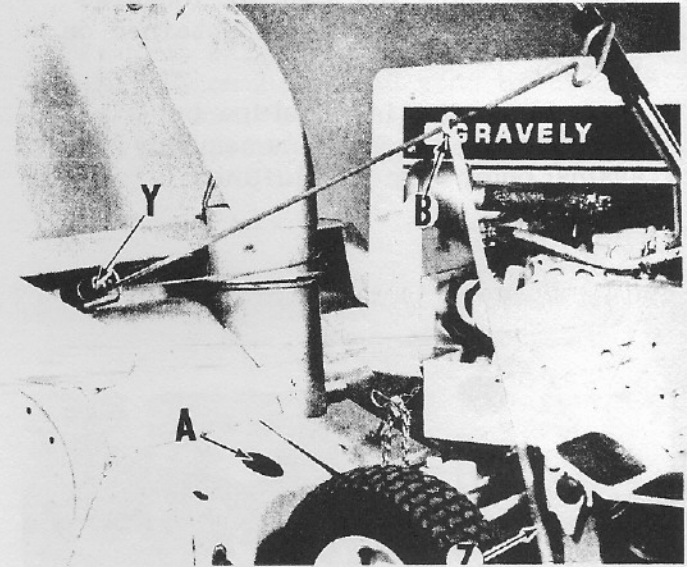

Fig. 16
Thread stack control rod hook into eye bolt (Y) as illustrated (Fig. 16)